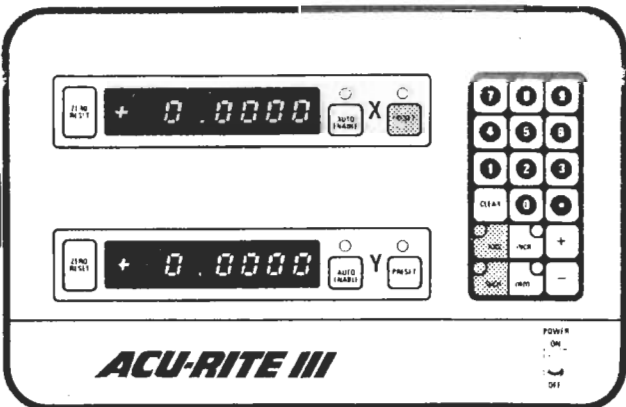

Figure 3-19 Console Status: Preset Entry, Absolute Mode
- d. When in the absolute mode, pushing the PRESET key will allow you to preset the absolute register (Figure 3-19).